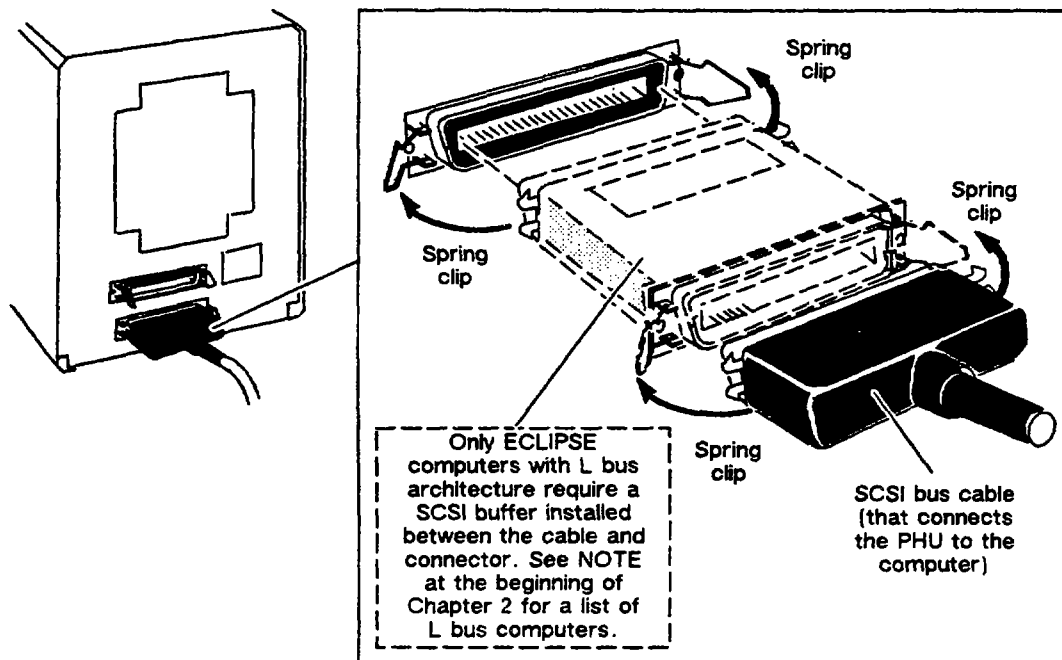

Figure 4-8 Removing the SCSI Bus Cable and the SCSI Buffer (if used) from the PHU.
2. Release the spring clips on each side of the SCSI bus cable connector, as shown in Figure 4-8. Unplug the SCSI bus cable from the SCSI bus connector or SCSI buffer (if used).
3. If you are replacing the SCSI buffer, remove it by releasing the spring clips on the other end, as shown in Figure 4-8. Install the replacement SCSI buffer so that the arrows and the words "Peripheral Input" on the SCSI buffer's label
3. Refer to Figure 4-8, and release the spring clips on each side of the SCSI bus cable connector. Unplug the SCSI bus cable connector from the SCSI bus connector. (If the PHU uses a SCSI buffer, remove it by releasing the two spring clips.)